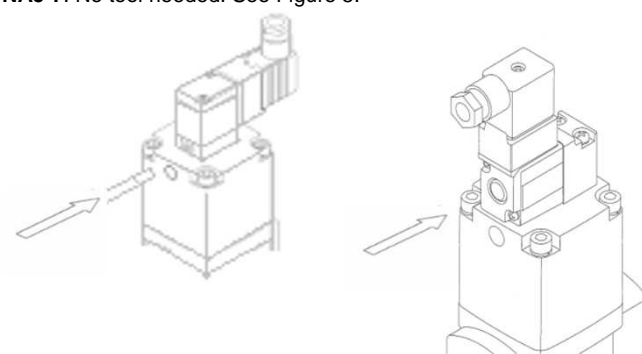

Figure 5. Manual Override for VNA1-4 (Left) & VNA5-7 (Right)
**VNA1-4:** See Figure 5. Push on the manual override button using a small-bladed screwdriver until it stops ON.
**VNA5-7:** No tool needed. See Figure 5.